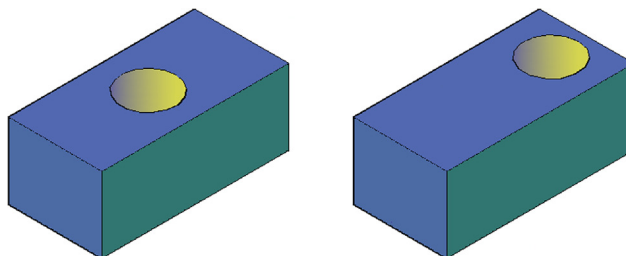

FIGURE 25.17
Step 2. AutoCAD shows the same lengthy solid editing menu (not reproduced here) and asks you to select the faces (the hole). From there, the command is exactly like a regular move command. It asks for a base point to move *from* and a second point to move *to*. Be sure to have Ortho on when doing this. On completion, the hole is moved, as seen in Figure 25.17.